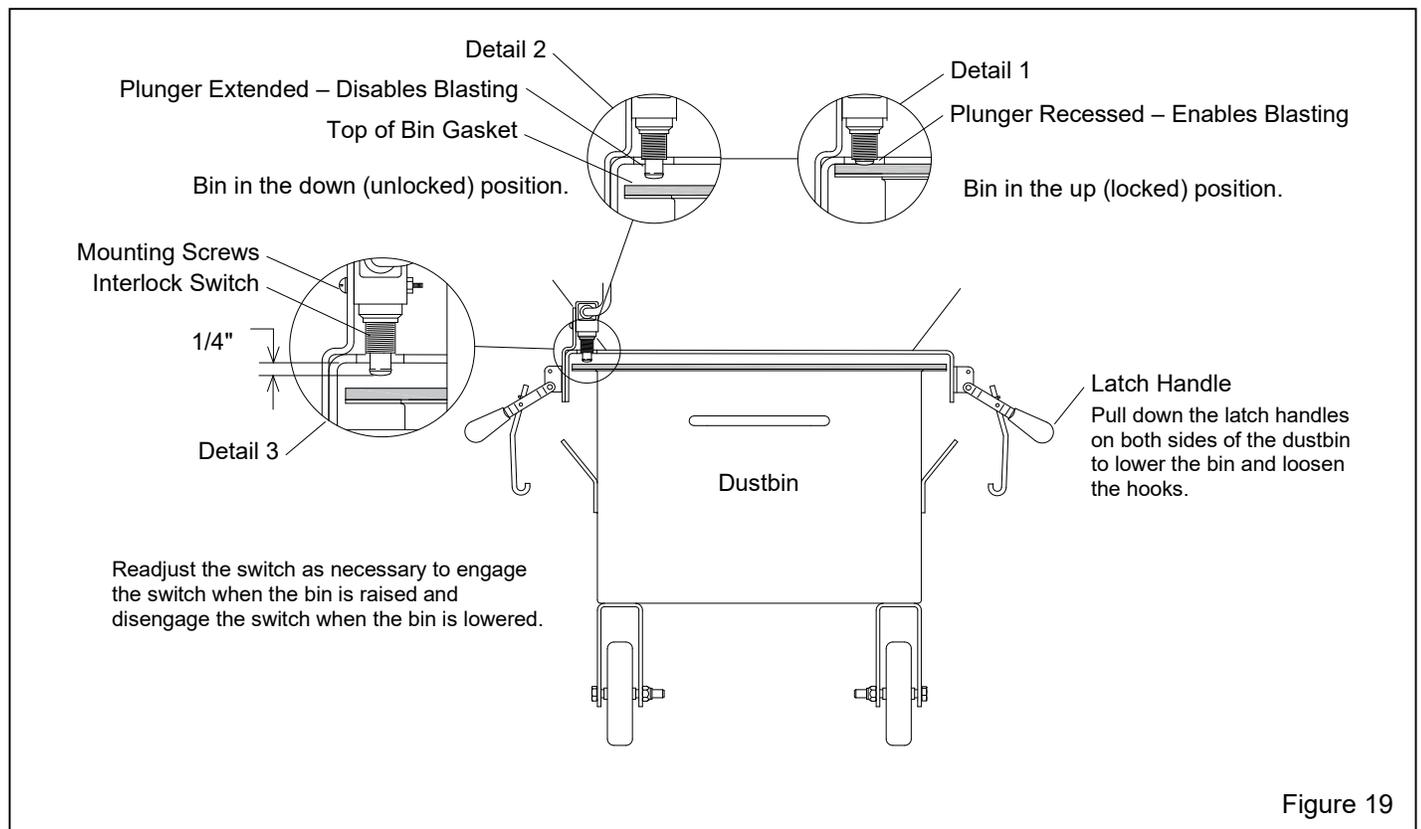

Figure 19
## 5.6 Dustbin Interlock – Figure 19
Figure 19. The interlock is set at the factory and does not normally require field adjustment unless parts are replaced. When adjustment is required, proceed as follows:
**5.6.3** To disable blasting and permit removal of the dustbin, the top of the bin must clear the switch, as shown in the Detail 2 Circle in Figure 19.
**5.6.4.2** Loosen the switch's mounting nuts. Move the switch up or down as necessary to obtain approximately 1/4" between the bottom of the hopper flange and bottom of the switch's plunger, as shown in the Detail 3 Circle in Figure 19.